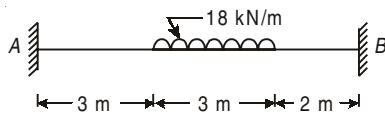

Fig. 4.39
- 4.16.** Analysis the fixed beam as shown in Fig. 4.39.